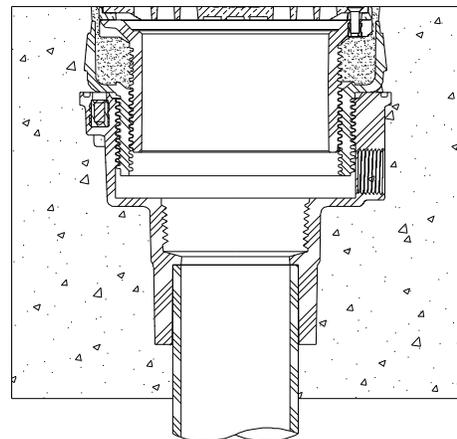

Fig. 10R
10. Turn head assembly clockwise until top of strainer is flush with the finished floor. Wipe away excess silicone. Remove protective label once construction is complete. See Fig. 10R